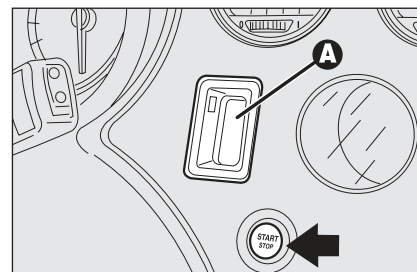

fig. 14
- ❑ electronic key reading device **A** - **fig. 14** (set near the steering wheel);